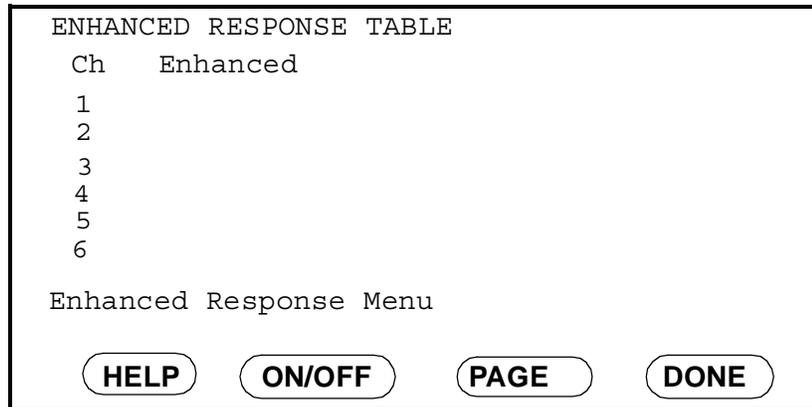

Figure 3-9: Enhanced Response Menu
3. If necessary, press the PAGE menu key until the Enhanced Response Menu appears (see Figure 3-9 on page 3-16).